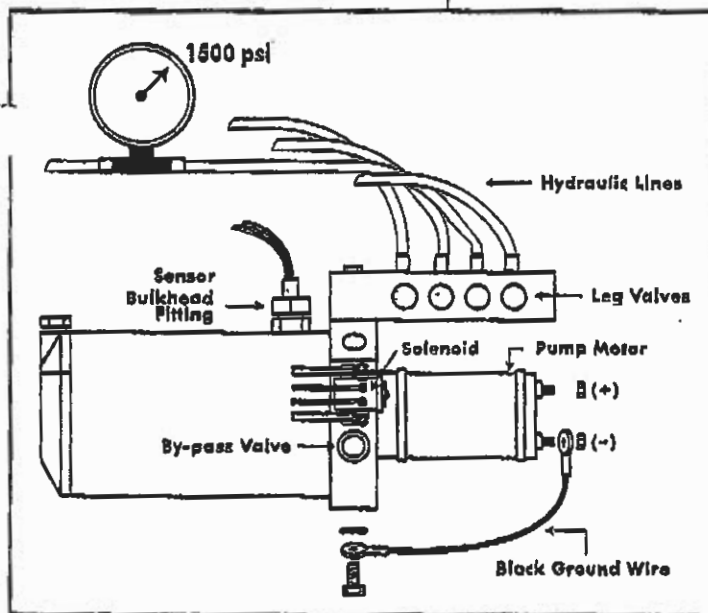

Figure 4b
4. Check the system pressure by installing a gauge in one of the top hydraulic lines between the manifold and cylinder / leg assembly. The gauge will read the by-pass pressure when the jack is at full extension. Adjust the socket head screw clockwise for more pressure and counter clockwise for less pressure. You will have to momentarily reverse the leg direction and reextend each time the valve is adjusted to get a correct reading. (Fig. 4b)